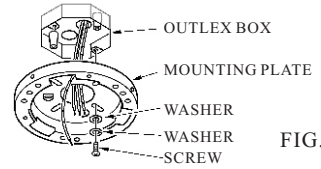

FIG.2
2. Install the mounting plate onto junction box with the provided mounting hardware.(see fig.2)